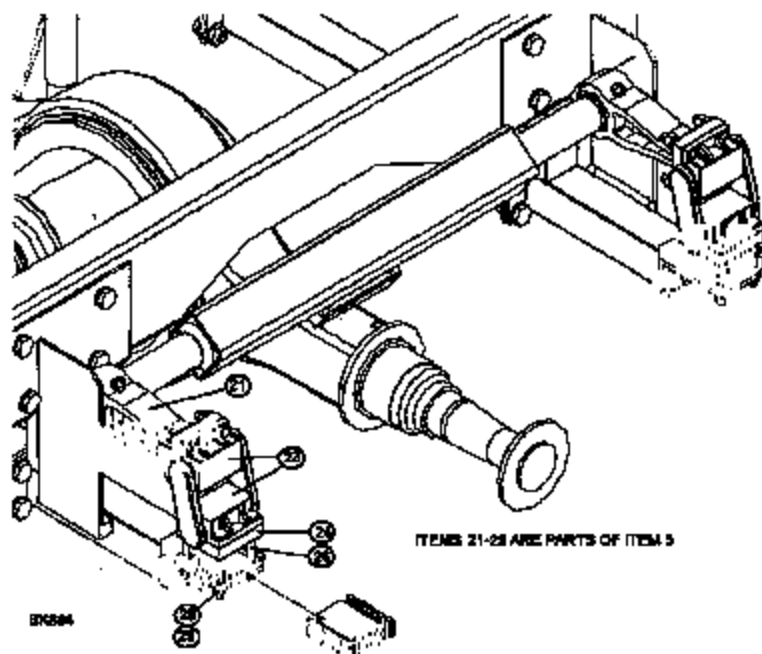

FIGURE 3
7. Install Shims. Lift up each shackle assembly (5) along with the shackle mounting pad (24) (Figure 3) and slide a stack of ten shims (12) between the shackle mounting pad and the substructure mounting pad. Lower the shackle assembly and make sure the shackle rubber is seated squarely between the shackle shell (23) and the shackle mounting pad (24) and that the shims are aligned. Tighten the nuts evenly using the criss-cross method and torque the sixteen nuts to 110 - 120 ft-lbs. The main spring (4) should be suspended in the air by the shackle torsion.